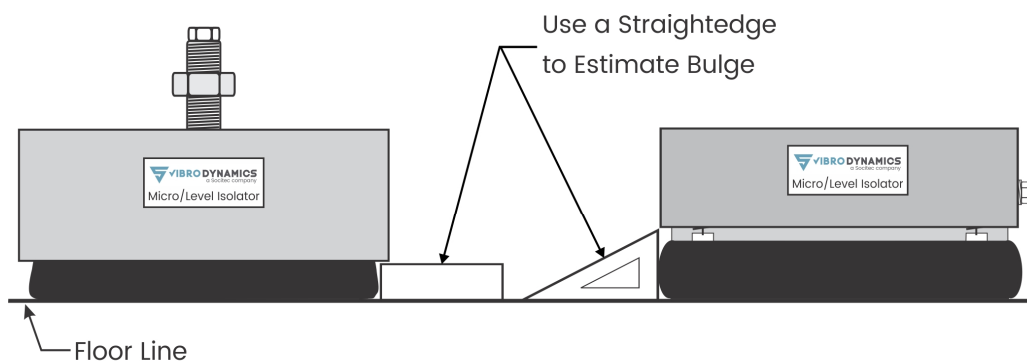

Figure 2
7. Inspect all of the Isolator's Elastomeric Cushions and determine the amount of bulge for each. Holding a straightedge against the side of the Elastomer makes it easy to see the amount of bulge. See Figure 2.